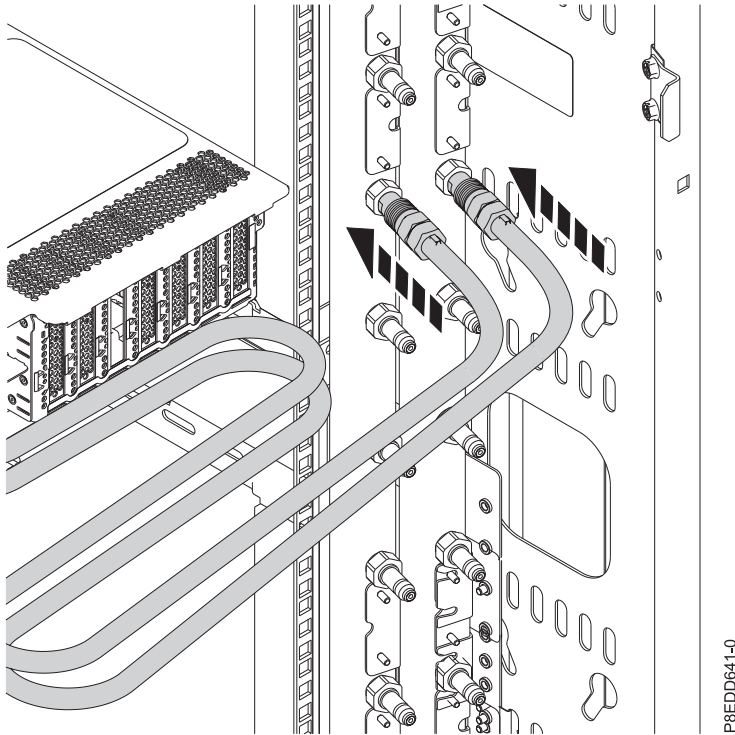

Figure 218. Reconnecting the water hoses
8. Replace the water hoses into the cable management arm and reconnect them at the rear of the rack, as shown in Figure 218 on page 213.